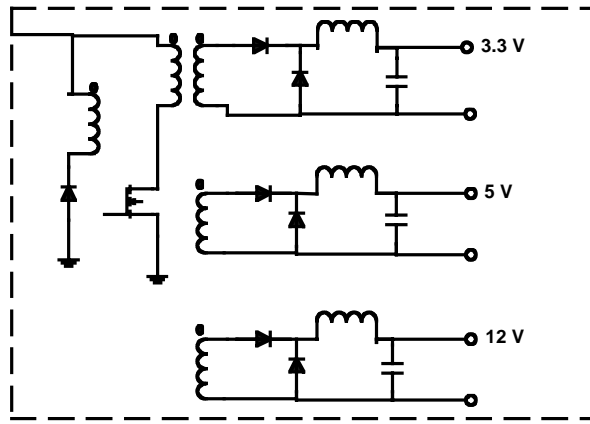

Figure 14: Part of a Power Supply for a Desktop Computer
- Rectification: Power supplies use Diodes, not only for rectification but also in later stages in a protection capacity. For example, a desktop computer power supply uses diodes both as a block for reverse polarity and also as a flyback or shunt path for current spikes. See Figures 14 and 15 below.